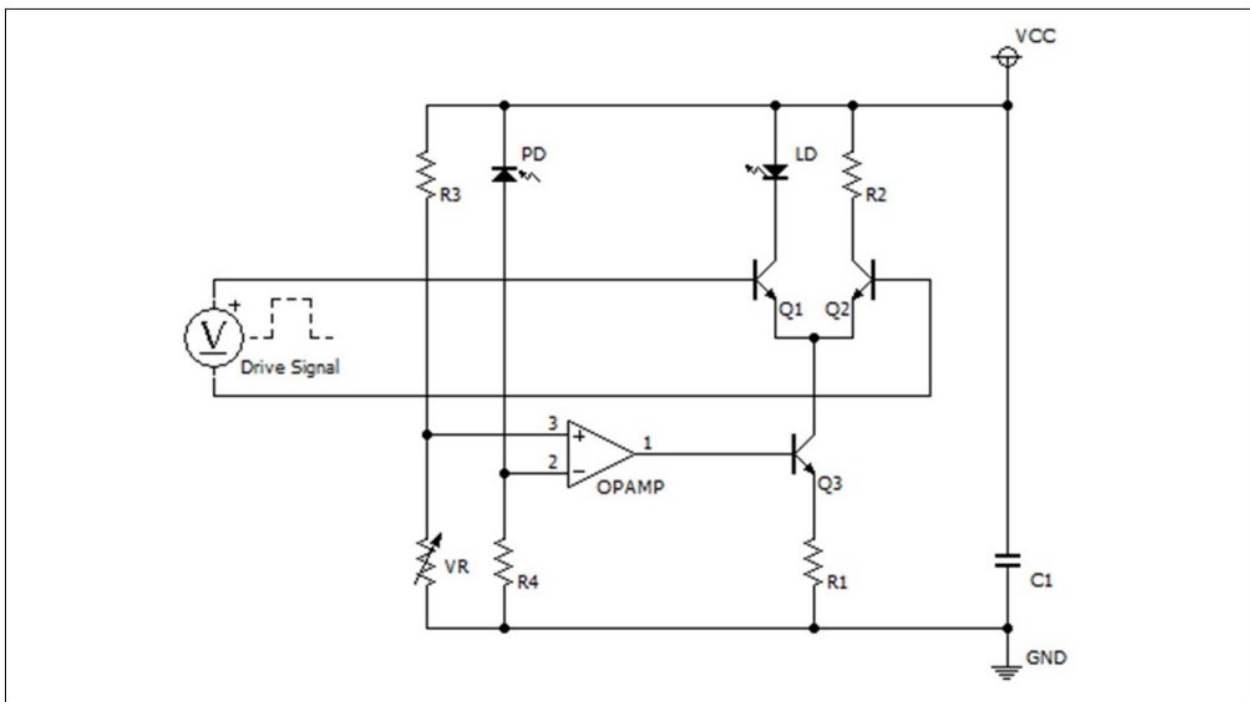

Figure 2 Simple Drive Circuit (Example)
d. An example of the LD drive circuit is shown in Figure 2. In Figure 2, a constant current circuit that determines the current that the LD lights up is configured with an operational amplifier, a transistor Q3, and a resistor R1. When implementing APC, please control the base potential of transistor Q3.